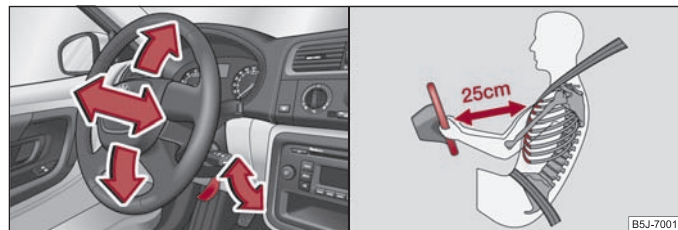

Fig. 3 Adjustable steering wheel: Lever on the steering column / the correct distance of the driver from the steering wheel
- Pull the lever below the steering wheel down ⇒ fig. 3 - left.
- Adjust the steering wheel so that the distance between the steering wheel and your chest is at least 25 cm ⇒ fig. 3 - right. Not maintaining this minimum distance will mean that the airbag system will not be able to properly protect you - hazard!